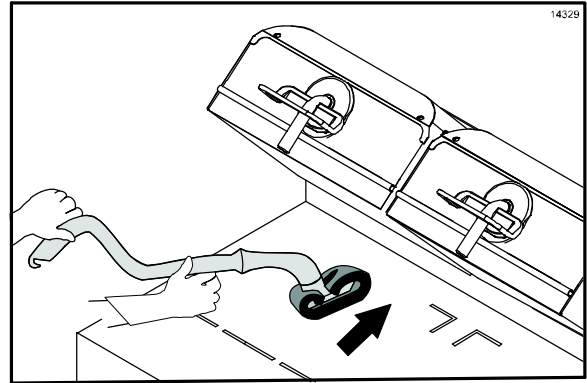

Figure 94
35. Spread a light coating of the grill cleaner over the entire lower grill surface, using front to back strokes. **Do not scrub while applying product.** (See Figure 94.)